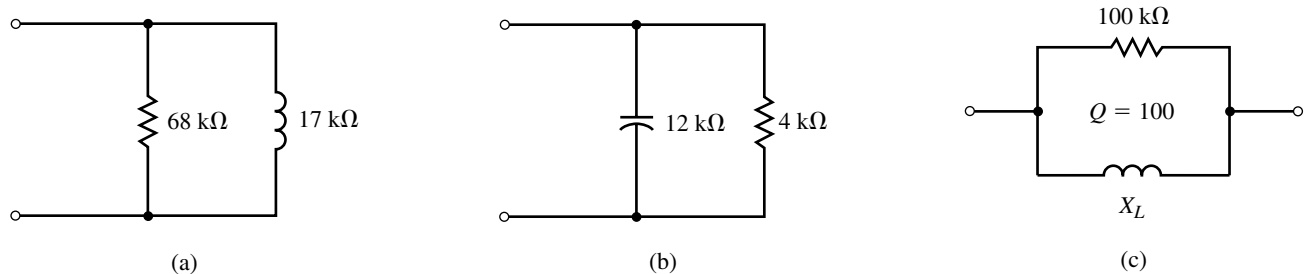

FIGURE 21-61
19. Find the Q of each of the networks of Figure 21-61 and determine the series equivalent of each. Express all component values in ohms.